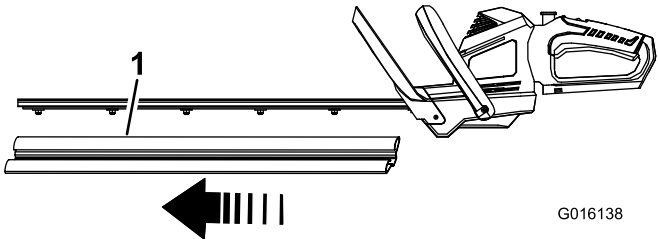

Figure 2
1. Remove the protective cover from the cutter blades (Figure 2).